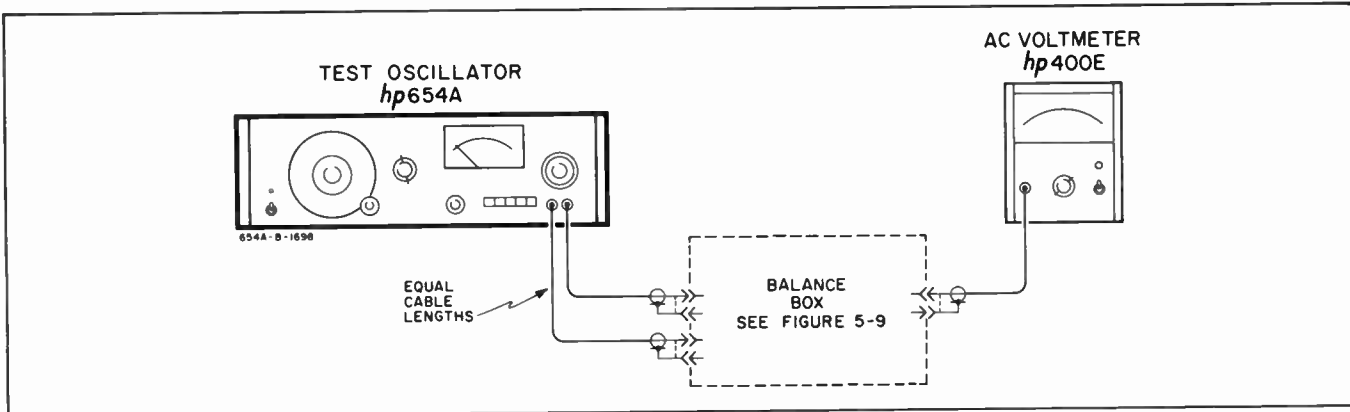

Figure 5-8. Balance Checks
a. Connect the equipment, as shown in Figure 5-8, using the 135 ohm Balance Box: (the parts required to build the Balance Box are shown in Figure 5-9) the cables from the 654A should be as short as possible and of equal length (jumper cables, -hp- 10502-6001, which are made from 8 in. lengths of coaxial cable, are suitable for this application).